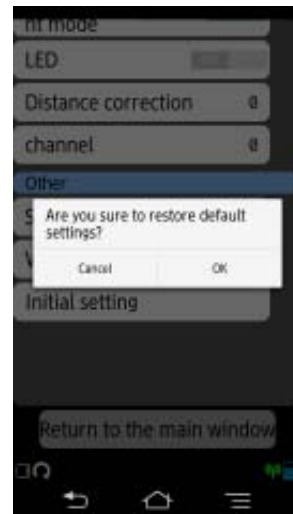

Figure 4-54 Initial setting confirmation
- (1) Tap Other: [Initial setting] menu. Then the initial setting conformation screen (Figure 4-54) appears.
- (2) Tap **[OK]**, then the initial setting are restored to all settings, then the screen returns to the parameter setup screen. To cancel the initialization, tap **[Cancel]**, then the screen returns to the parameter setup screen without restoring the initial values.